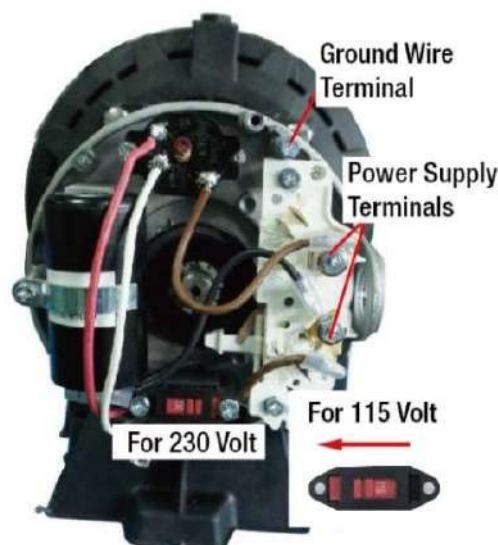

Figure 4
- ☐ Flip the switch to 115Volt (Figure 4).
Step 7. Connect current carrying conductors to terminals L1 and L2 under motor canopy. When replacing motor, check wiring diagram on motor nameplate against Figure 4. If the motor wiring diagram does not match Figure 4, follow the diagram on the motor.
NOTICE: 115/230 Volt single phase models are shipped from factory with motor wired for 230 volts. If power supply is 115 volts, remove motor canopy and reconnect motor as shown in Figure 4. Do not try to run motor as received on 115 volt current.